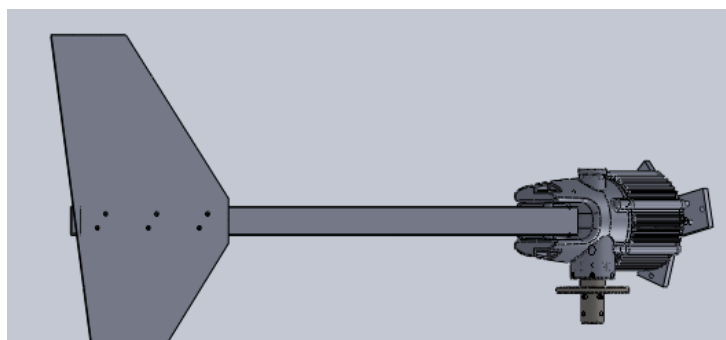

Figure 5
(7) Take apart the tail rod pre-lock screw and install the tail rod, the direction as shown in Figure 5, the screw is assembled from the top and down and lock tightly with nuts.
(8) Tower lifting (make three wires of wind turbine short-circuit to ensure that the generator at a brake status, and operate safely.
(9) Connect lines